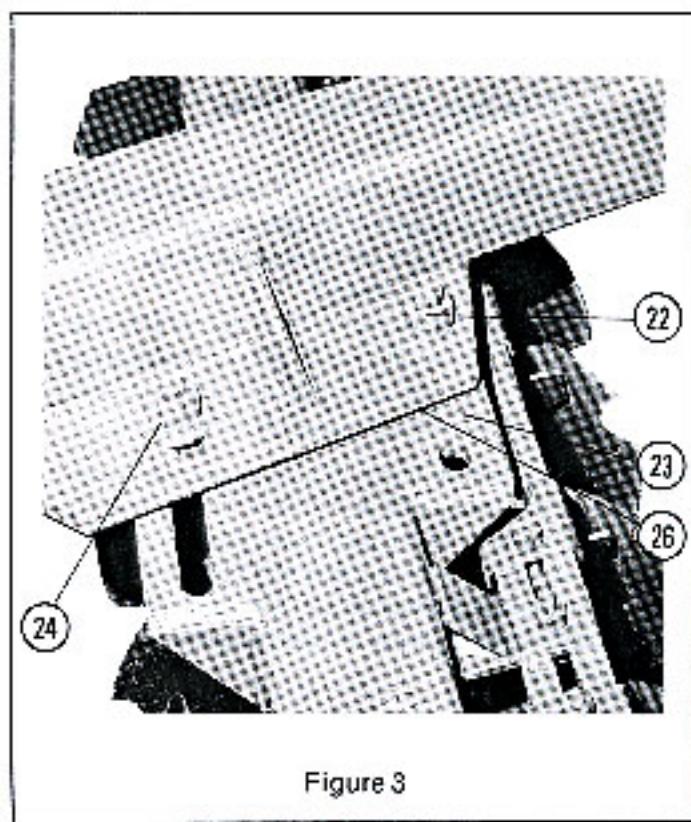

Figure 3
3. **Offsetting Rear Gang Bar:** (Refer to Figure 3) for ordinary conditions bolt(22) should be in the centre of lateral plate(23). When using disc as a double wide unit the rear gang bar is adjusted to maximum width to fill furrow. Remove two bolts(22), loosen bolt where slots are(24), adjust laterally then retighten all bolts.
- B. **Side to Side Levelling:** (Refer to Figure 3) In general, adequate levelling from side to side may be obtained by placing levelling washers(26) between angling plate on frame and gang bar. Levelling washers are always used on narrow side(N) of disc only.